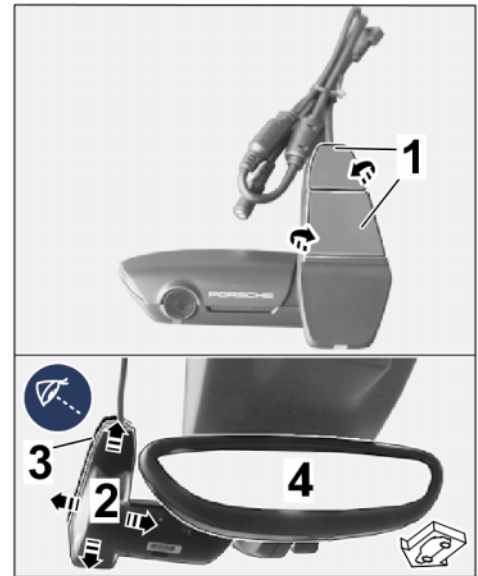

Figure 10
2.2.4 Pull protective film off the front camera retainer plate. ⇒ *Figure 10-top-*
Align front camera with retainer plate symmetrically with respect to the 3M privacy film. ⇒ *Figure 10-Bottom-*